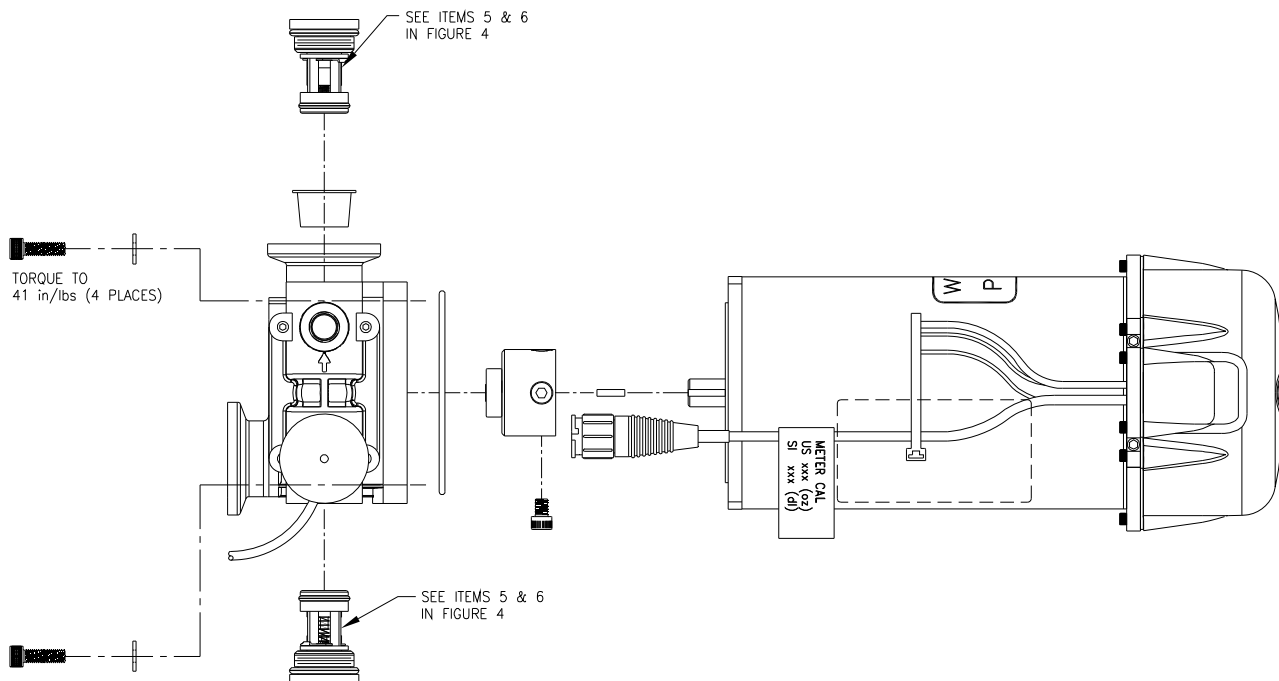

FIGURE 5
- 8) Tighten bolts to torque specified in Figures 5 and 6.
Reference Figures 5 & 6.